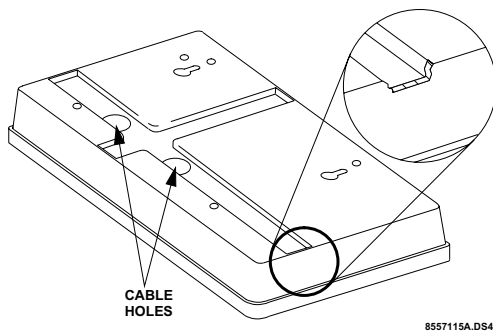

Figure 3 Cable Holes and Channels
- Feed the cables through one of the cable holes in the back box (figure 3).